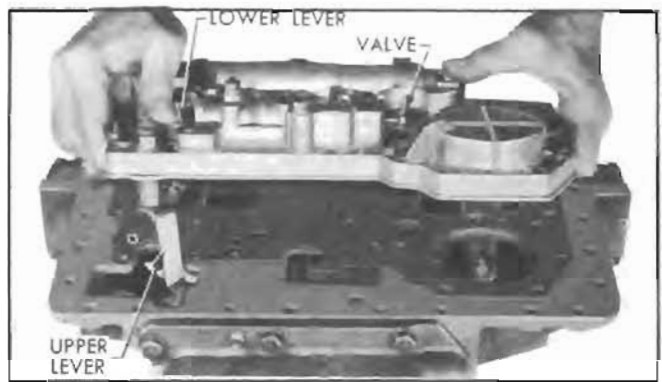

Figure 4-79—Removing Valve and Servo Body Assembly
5. Lightly pry upward on the assembly to free the gasket between servo body and transmission case. Push shift control valve and lower operating lever inward to align the lower lever with opening in transmission case, then remove the assembly. See figure 4-79. **CAUTION:** *Do not grasp slotted end of control valve because sharp edges may cut hand.* Remove gasket and check for indication of oil leakage.